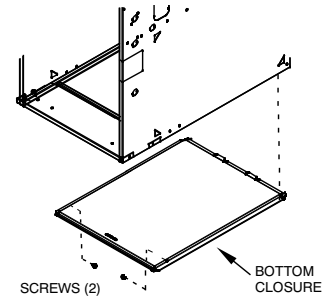

**Fig. 23 – Horizontal Return Air Configurations and Restrictions**
The return-air duct must be connected to bottom, sides (left or right), or a combination of bottom and side(s) of main furnace casing. Bypass humidifier may be attached into unused return air side of the furnace casing. See Fig. 21, Fig. 22, and Fig. 23.
**NOTE:** Side return-air openings can be used in UPFLOW and some HORIZONTAL configurations. Do not use side return-air openings in DOWNFLOW configuration. See Fig. 21, Fig. 22, and Fig. 23.
Not all horizontal furnaces are approved for side return air connections. See Fig. 23. Where required by code, seal bottom closure to furnace with tape, mastic, or other durable sealing method.
For horizontal applications, the Media Cabinet (or field supplied accessory air cleaner) for all models can be connected to the bottom opening on the furnace. For side return use in the horizontal position, refer to Fig. 23. If both side and bottom openings are used in Fig. 23, each opening used will require a filter.